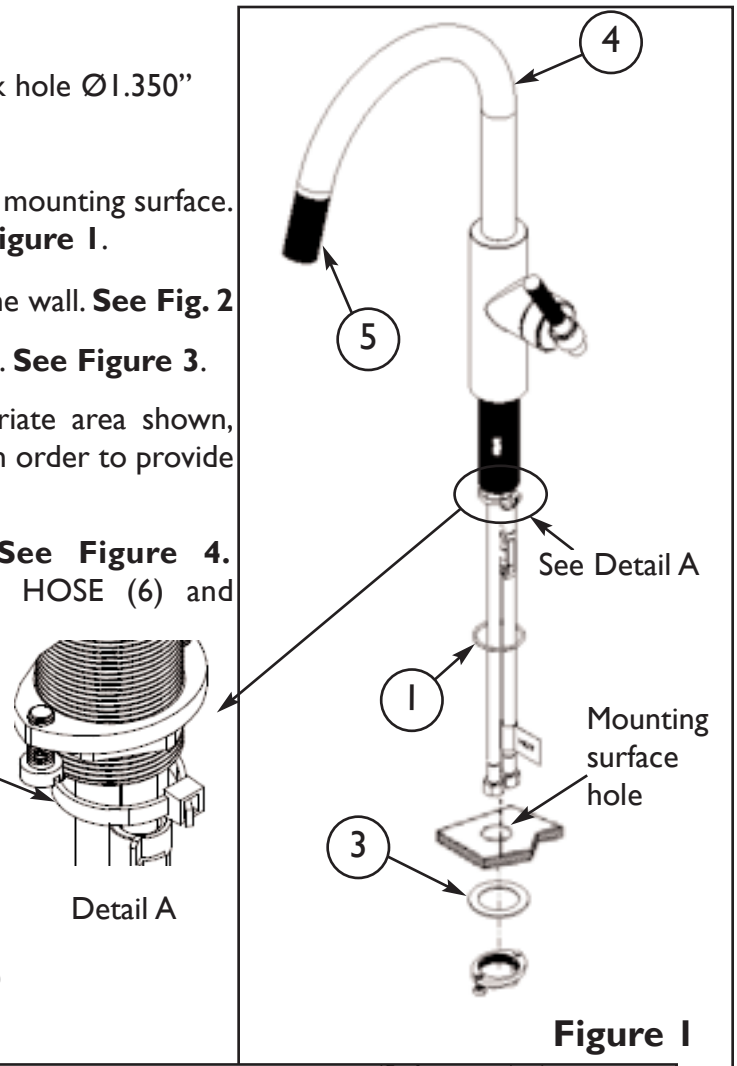

Figure 1
2. Insert Hoses through base O-RING (1) and hole in mounting surface. Secure into place with MOUNTING KIT (3). See Figure 1.